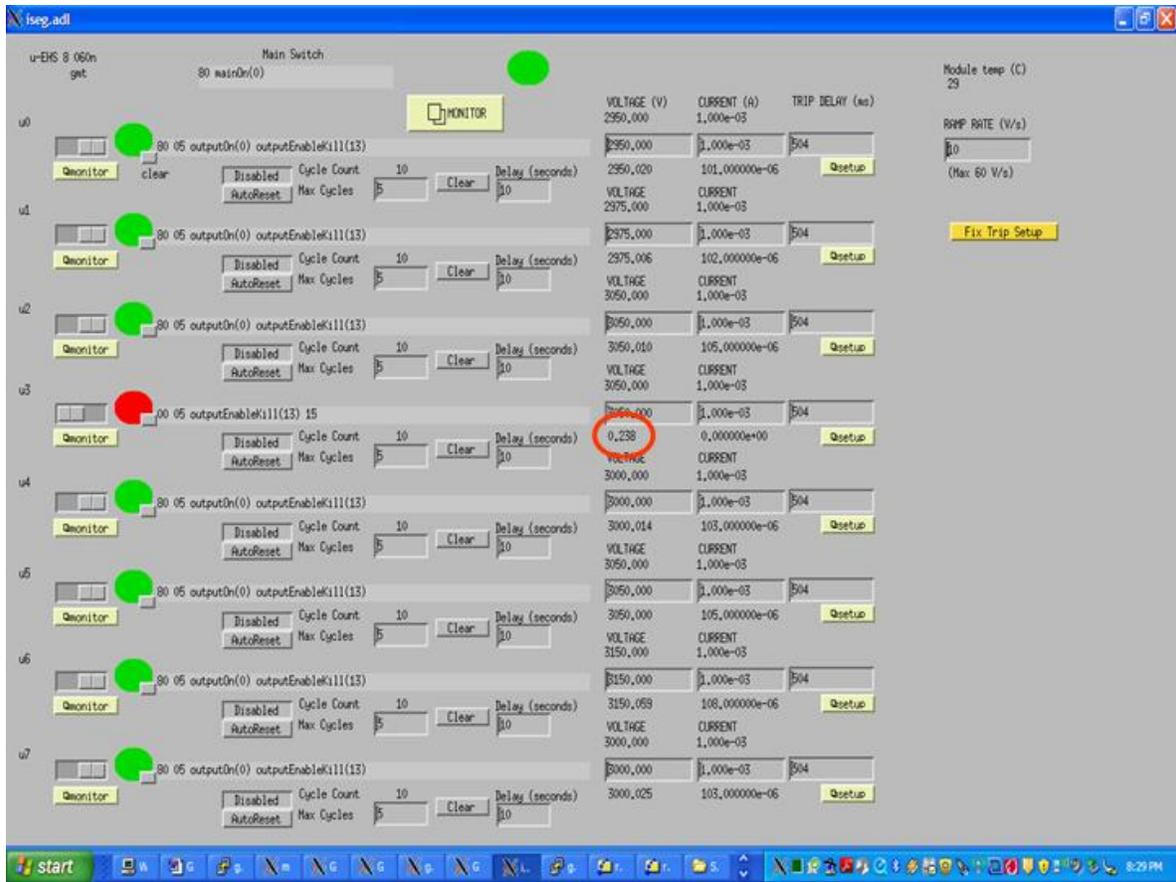

Figure 5. iseg.adl with a tripped channel.
A. Open the “iseg.adl” GUI. Look for it on the task bar at the bottom of the computer screen and click to restore. If it is not on the task bar it can be opened from the “GMTPowerSupply-expert.adl” GUI. Click on the large button labeled “U-EHS 8 060n.” This should open the “iseg.adl” GUI which will look like figure 5.